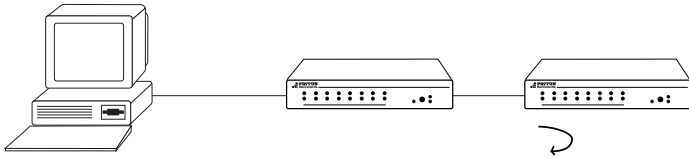

Figure 9 . Line Test
The DTE Remote Loopback test allows you to evaluate the multiplexers and their connection path by using the local DTE. In order to fully test both units as well as the twisted pair connection path, you will need install the enclosed RJ-45 loopback adapter into the specific remote sub-channel modular jack. Figure 9 shows an example of the Remote Loopback test with the RJ-45 loopback adapter attached to the remote multiplexer.
1. Install the RJ-45 loopback adapter into the sub-channel of the remote multiplexer as shown above in Figure 9. For instance, if you are testing channel 1, install a loopback adapter into the sub-channel 1 RJ-45 jack on the remote multiplexer.